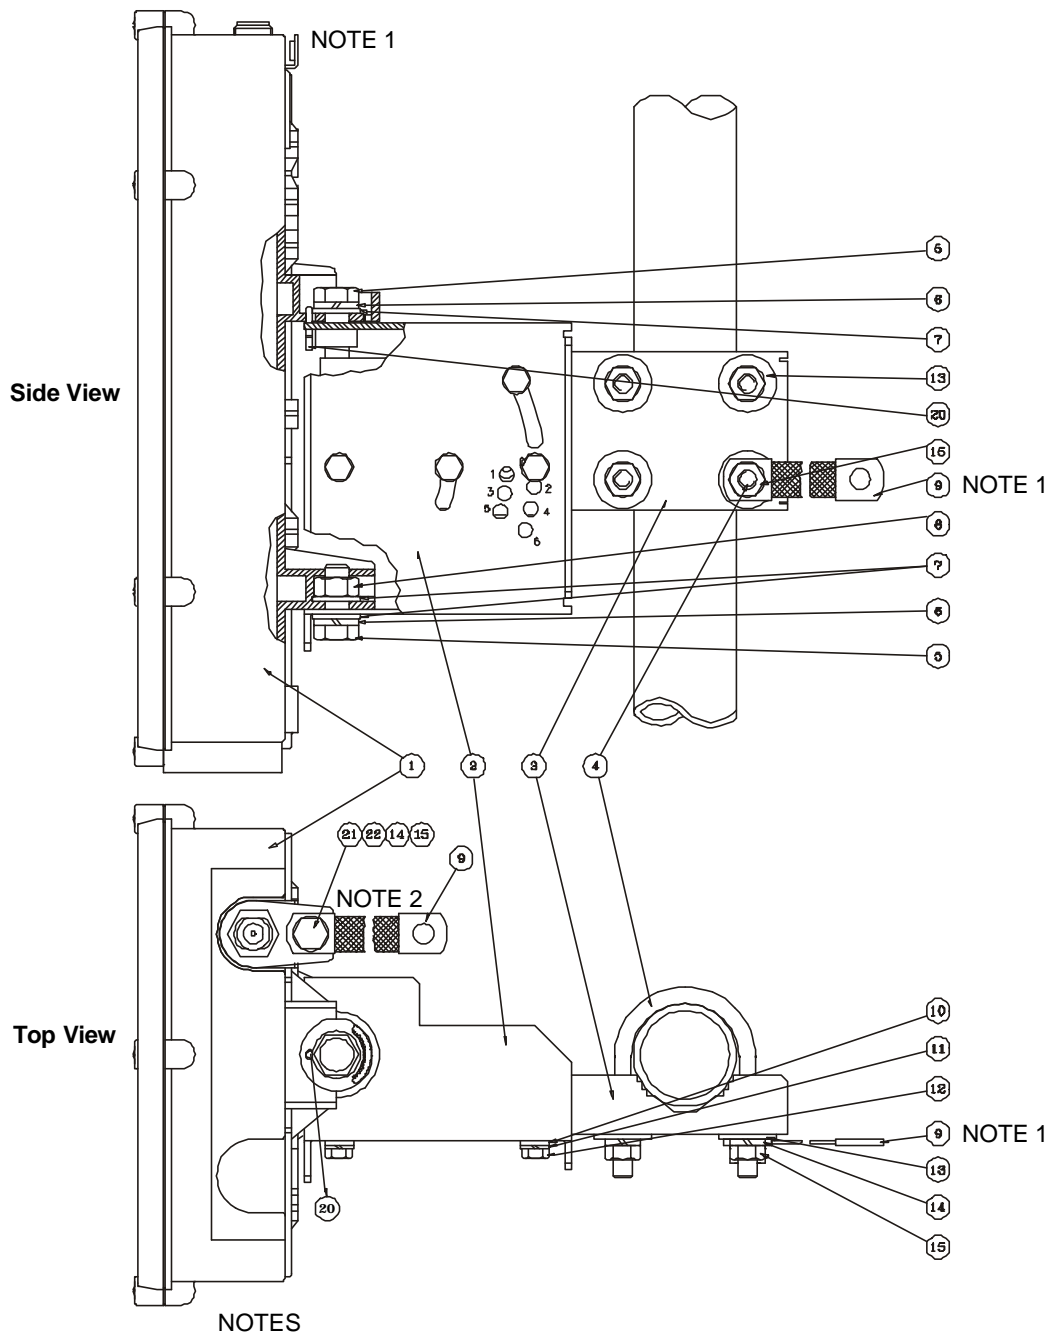

Figure 3-19. Antenna and Tilt Accessories
Refer to Figure 1-5 and to Figure 3-18 through Figure 3-22. Numbers in brackets indicate items in Figure 3-19 through Figure 3-22. Para a. below is applicable to sectorized antennas with external reflector. For sectorized antennas without reflectors, skip to para. b. below.
Two. Tilt Accessories Attachment. Refer to Figure 3-19 through Figure 3-22.
- (3) Insert a screw and spring and flat washers (5, 6, 7) through the upper antenna attachment ear (as shown in Figure 3-19) and screw it by hand in the thread of the tilt holder (2).
- (4) Insert a screw and spring and flat washers (5, 6, 7) through the lower antenna attachment ear. Insert a flat washer and a nut (8), and then screw the nut by hand, clockwise, on the screw that fastens the lower attachment ear.
- (5) Position the tilt bracket (3) in the inner side of the tilt holder (2), fasten it to the tilt holder using the tilt axle screw (12) and spring and flat washers (10, 11). Tighten the screw by hand.
- (6) Insert the split pin (20) in the dedicated holes through the upper antenna ear and the tilt holder and secure it by bending its ends.
- (7) Tighten the upper and the lower screws (5) and nut (8).
- (8) Position the tilt bracket to zero tilt. Insert the three tilt adjustment screws and washers and tighten them so that the tilt holder will stay in the horizontal position (i.e., zero tilt).